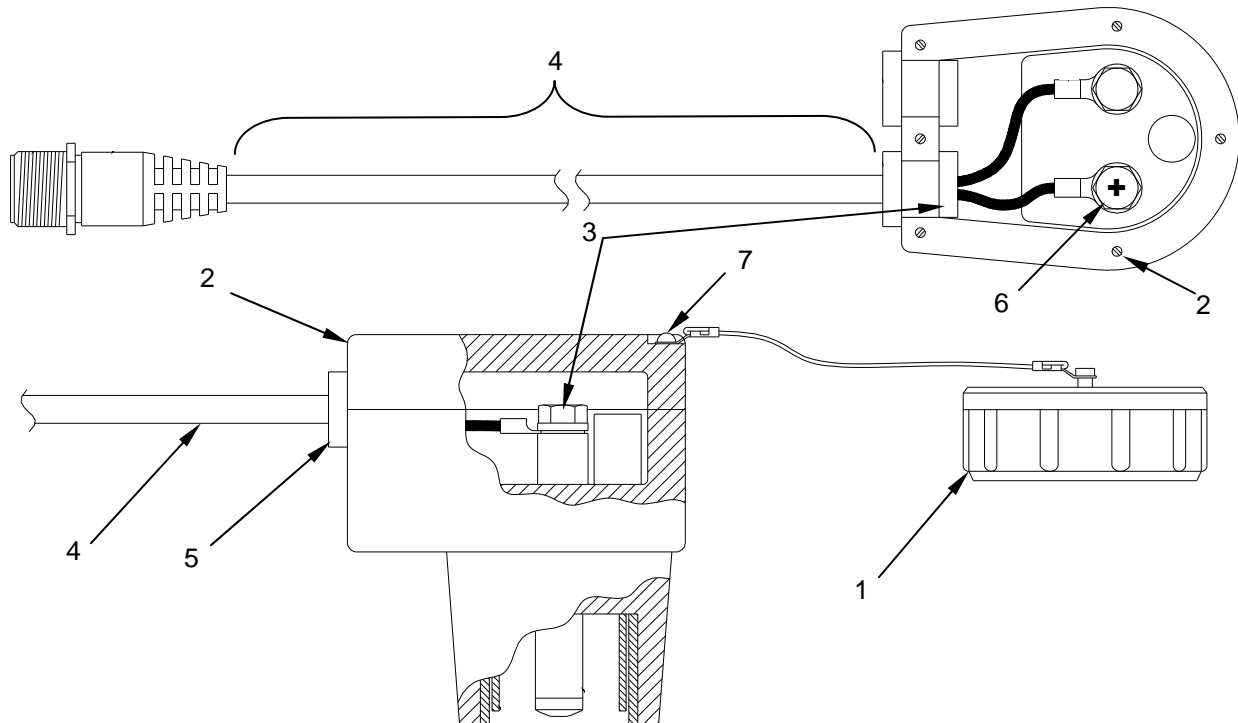

Figure 2. Replace NATO Adapter Cable Components.
1. Remove the protective cap (Figure 2, Item 1).
2. Remove the six screws that secure the back cover of the main connector head (Figure 2, Item 2).
3. Remove the two hex head bolts (Figure 2, Item 3) that secure the power cable (Figure 2, Item 4) to the main power connector head (Figure 2, Item 2) and remove the cable assembly.
4. Install a new power cable (Figure 2, Item 4) or new main connector head (Figure 2, Item 2) making sure to place the power cable strain relief (Figure 2, Item 5) into the slot on the main power connector head.
5. Place the power cable terminals in position by aligning the (+) positive lead of the cable with the (+) terminal (Figure 2, Item 6) on the main connector head (Figure 2, Item 2) and install the two hex head bolts (Figure 2, Item 3).
6. Place the back cover of the main connector head (Figure 2, Item 2) into position. Place a new cap, or the cap removed earlier, into position over the top screw hole (Figure 2, Item 7) and secure the six cover screws.